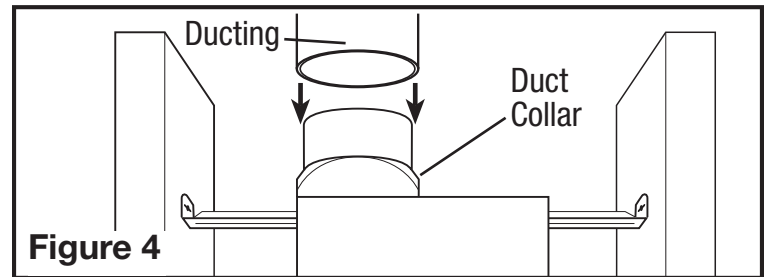

Figure 4
- Connect the ducting to the fan's duct collar (Figure 4). Secure in place using tape or screw clamp. Always duct the fan to the outside through a wall or roof cap. It is recommended that low restriction termination fittings be used.